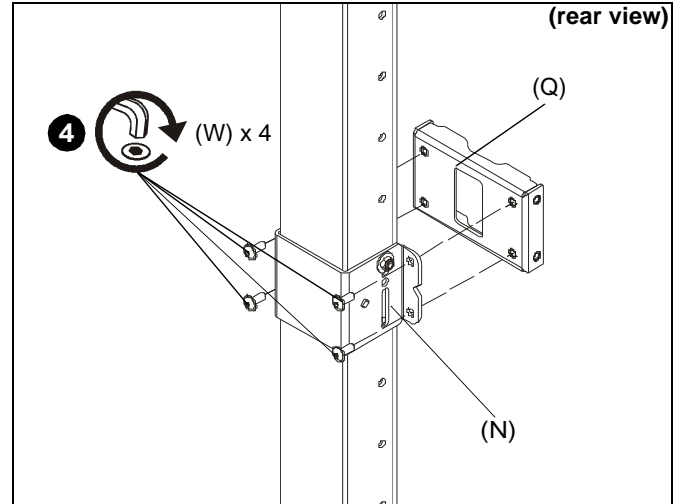

Figure 6
4. Use four 5/16-18 x 3/4" button head flange screws (W) to secure each attached clamp bracket (N) to each quick connect base (Q). (See Figure 6)